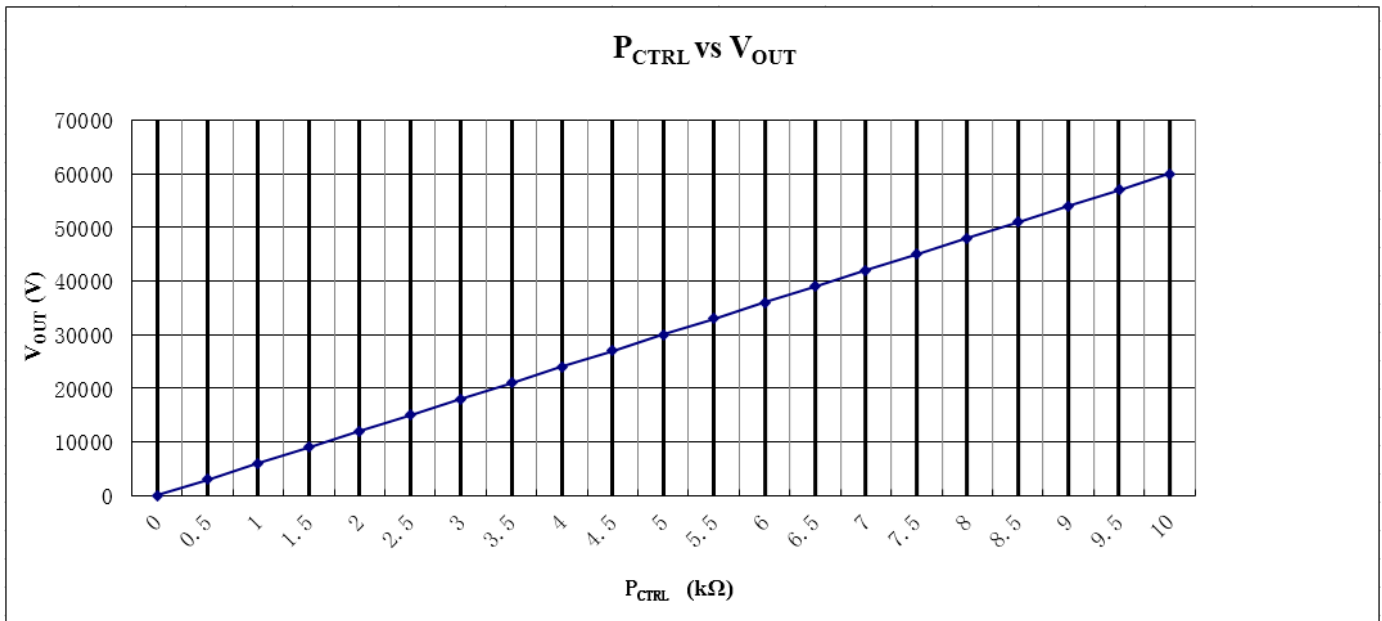

Figure 4. P_CTRL vs. V_OUT
5. HV adjustment: 10-turn potentiometer for adjusting output voltage. Rotate it clockwise to increase the output voltage, and the potentiometer resistance = the corresponding scale \times 10 Ω . For example, as Figure 4 shows, when the scale is 10, and the frame above the scale shows 1 (1k Ω), then the resistance = 10 \times 10 Ω +1k Ω =1.1k Ω , and the like.